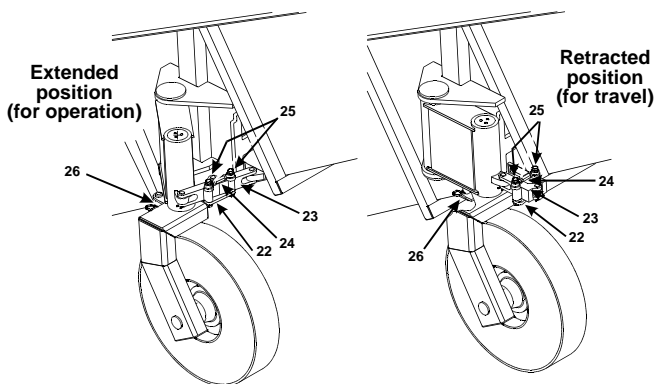

Figure 24
- Remove capscrews from red locking plate (22) on the locking linkage (23).
- Loosen jam nuts (25) on turnbuckle (24). Loosen turnbuckle and remove outboard capscrew in turnbuckle (Figure 24).
IMPORTANT! Make certain to leave rear caster locking pins (26) disengaged so casters will rotate (Figure 24 & 25).